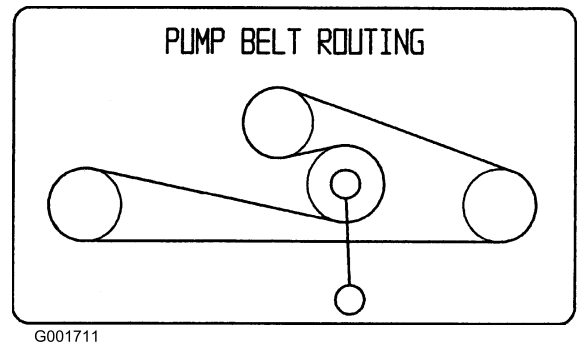

Figure 59
2. Pull the spring loaded idler down and remove traction belt from the engine and hydro pump pulleys (Figure 59). Remove belt between pulleys.
3. Install new belt around engine and hydro pump pulleys (Figure 59).
4. Pull spring loaded idler down and align below traction belt. Release the pressure on the spring loaded idler (Figure 59).